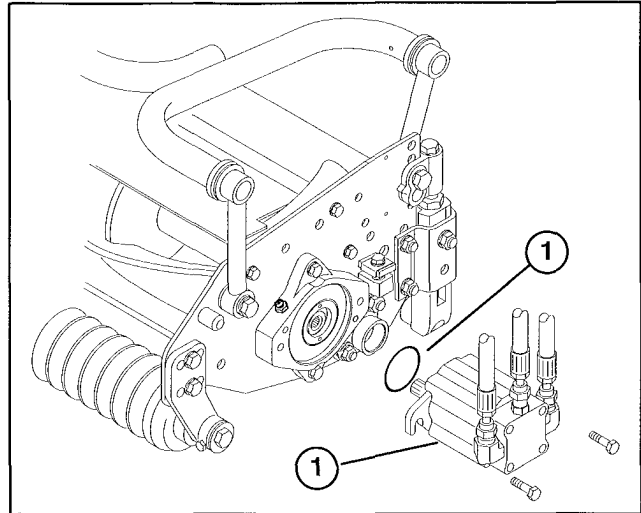

Figure 5
9. Mount the motor to the drive end of the cutting unit and secure with two capscrews provided (Fig. 5).